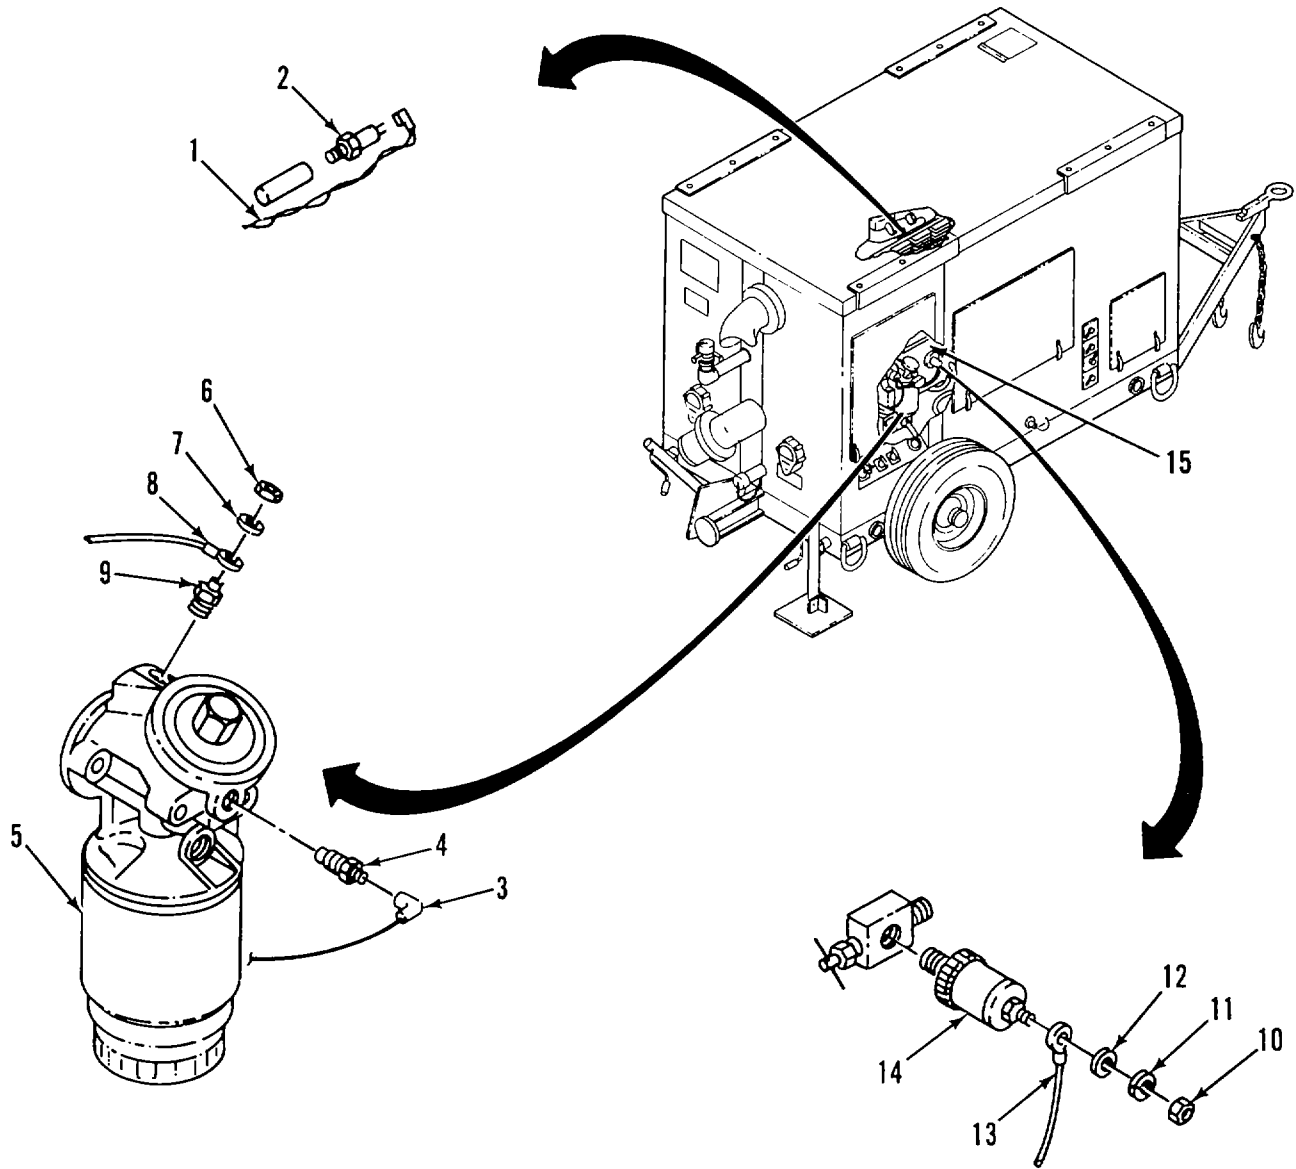

Figure 2-24. Engine Temperature and Oil Pressure Switches and Senders
a. REMOVE. (Figure 2-24)
- (1) Open engine access door.
- (2) Remove air cowling cover to engine.
- (3) Tag and disconnect wiring harness wire (1) from engine temperature switch (2). Unscrew switch from No. 1 cylinder of engine.
- (4) Tag and disconnect wiring harness (3) from oil pressure switch (4). Unscrew switch from side of oil filter housing (5).
- (5) Remove nut (6) and washer (7). Tag and disconnect wiring harness wire (8) from engine temperature sender (9). Unscrew sender from top of oil filter housing (5).
- (6) Remove nut (10), lockwasher (11), and flat washer (12). Tag and disconnect wiring harness wire (13) from oil temperature sender (14). Unscrew sender from pipe tee at engine block (15).